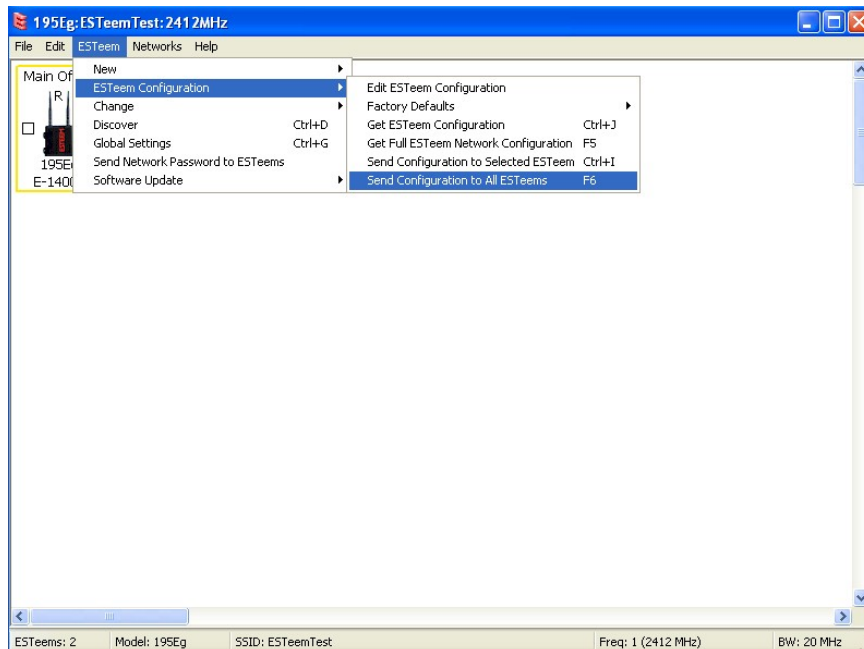

Figure 11: Send Configuration to ESTeems
5. Verify both ESTeem modems are connected to the same switch as the computer running the ENC Utility and send the configuration to both modems at the same time by selecting ESTeem>ESTeem Configuration>Send Configuration to All ESTeems (Figure 11).